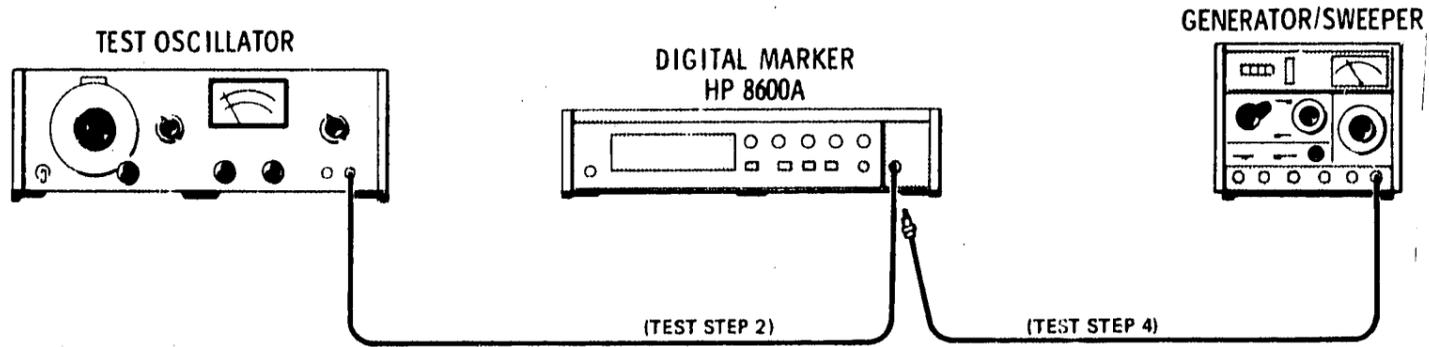

Figure 4-3. Frequency Range Test Setup
1. Connect equipment as shown in Figure 4-3.